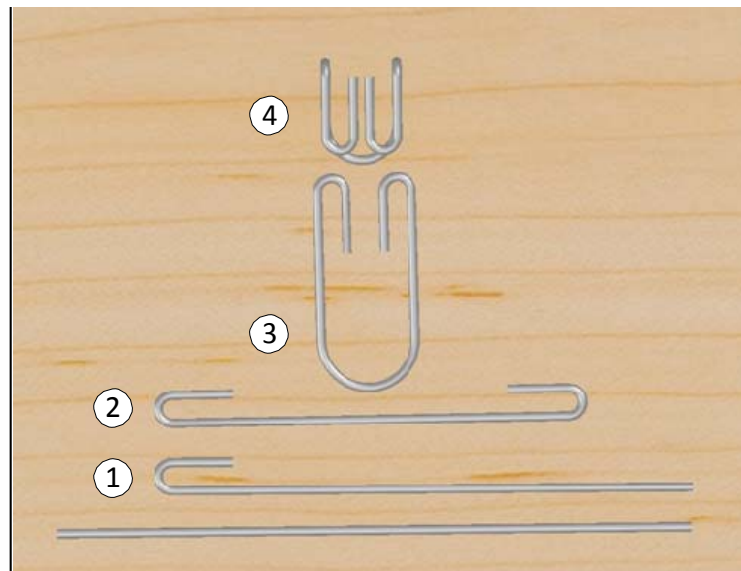

Figure 3: Sequence of bends
Step 3: Make **Bend #1** shown in Figure 3 using a **Table Vice**, **Self Locing Pliers**, **3/8" Diameter Die**.
Step 4: Make **Bend #2** shown in Figure 3 using a **Table Vice, Self Locing Pliers, 3/8" Diameter Die**.
Step 5: Make **Bend #3** shown in Figure 3 using a **Table Vice**, **Bar Clamp**, **1 1/4" Diameter Die**.
Step 6: Make the final **Bend #4** shown in Figure 3 using a **Table Vice**, and two **3/8" Diameter Dies**.